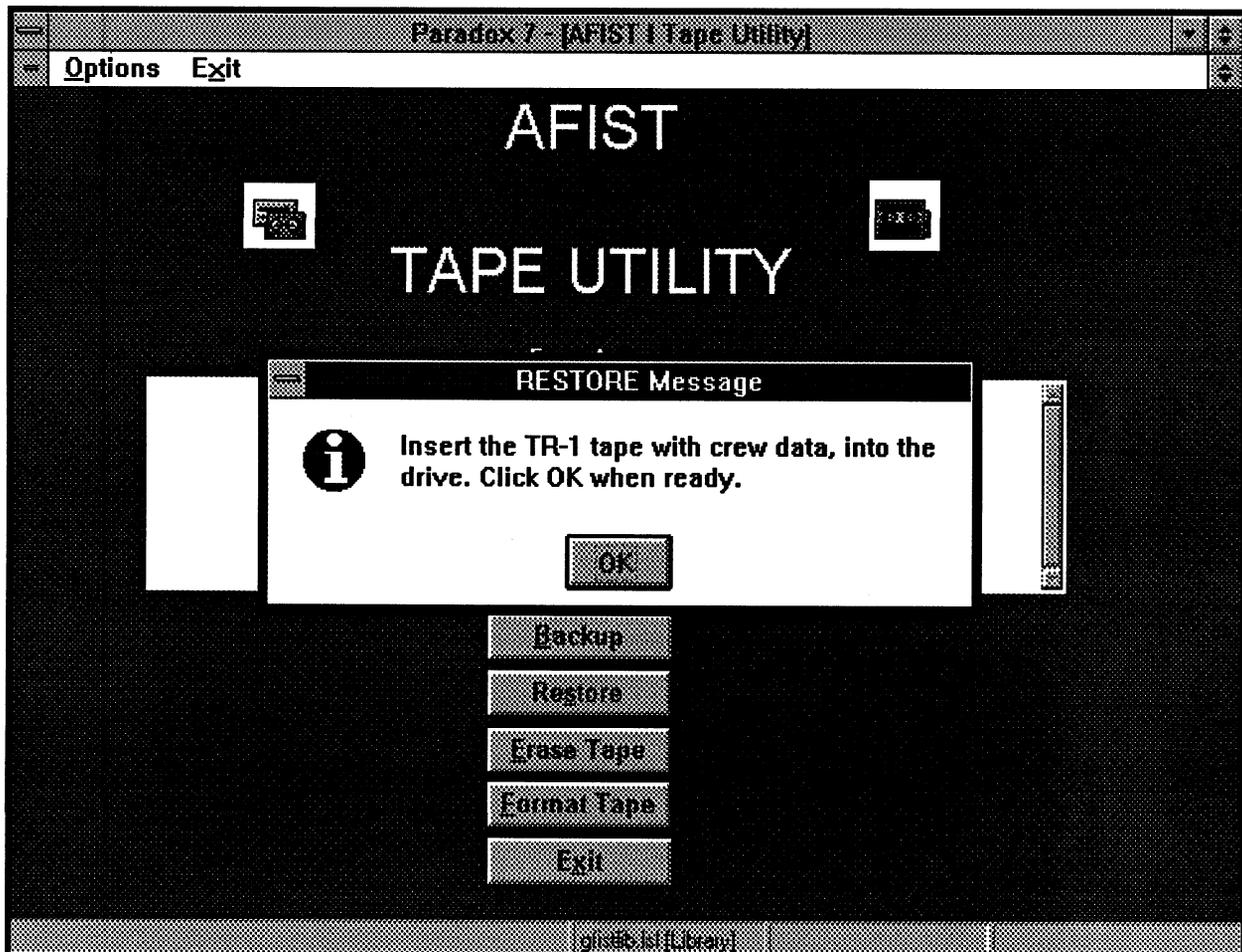

Figure 2-130. Restore Tape Request Screen
- a. At the Tape Utilities screen, click on the Restore button or select Restore from the pull-down Options menu. The Restore Tape Request screen, Figure 2-130, displays.